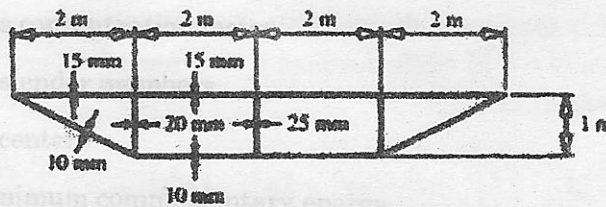

Fig. 3.
- (b) A thin walled bridge deck having singly symmetric cross-section as shown in the fig.3. Determine the torsional stiffness of the section,  $T/\theta'$ , in  $(\text{kN m}^2/\text{degree})$ , if the shear modulus is constant throughout and of value  $70000 \text{ N/mm}^2$ .